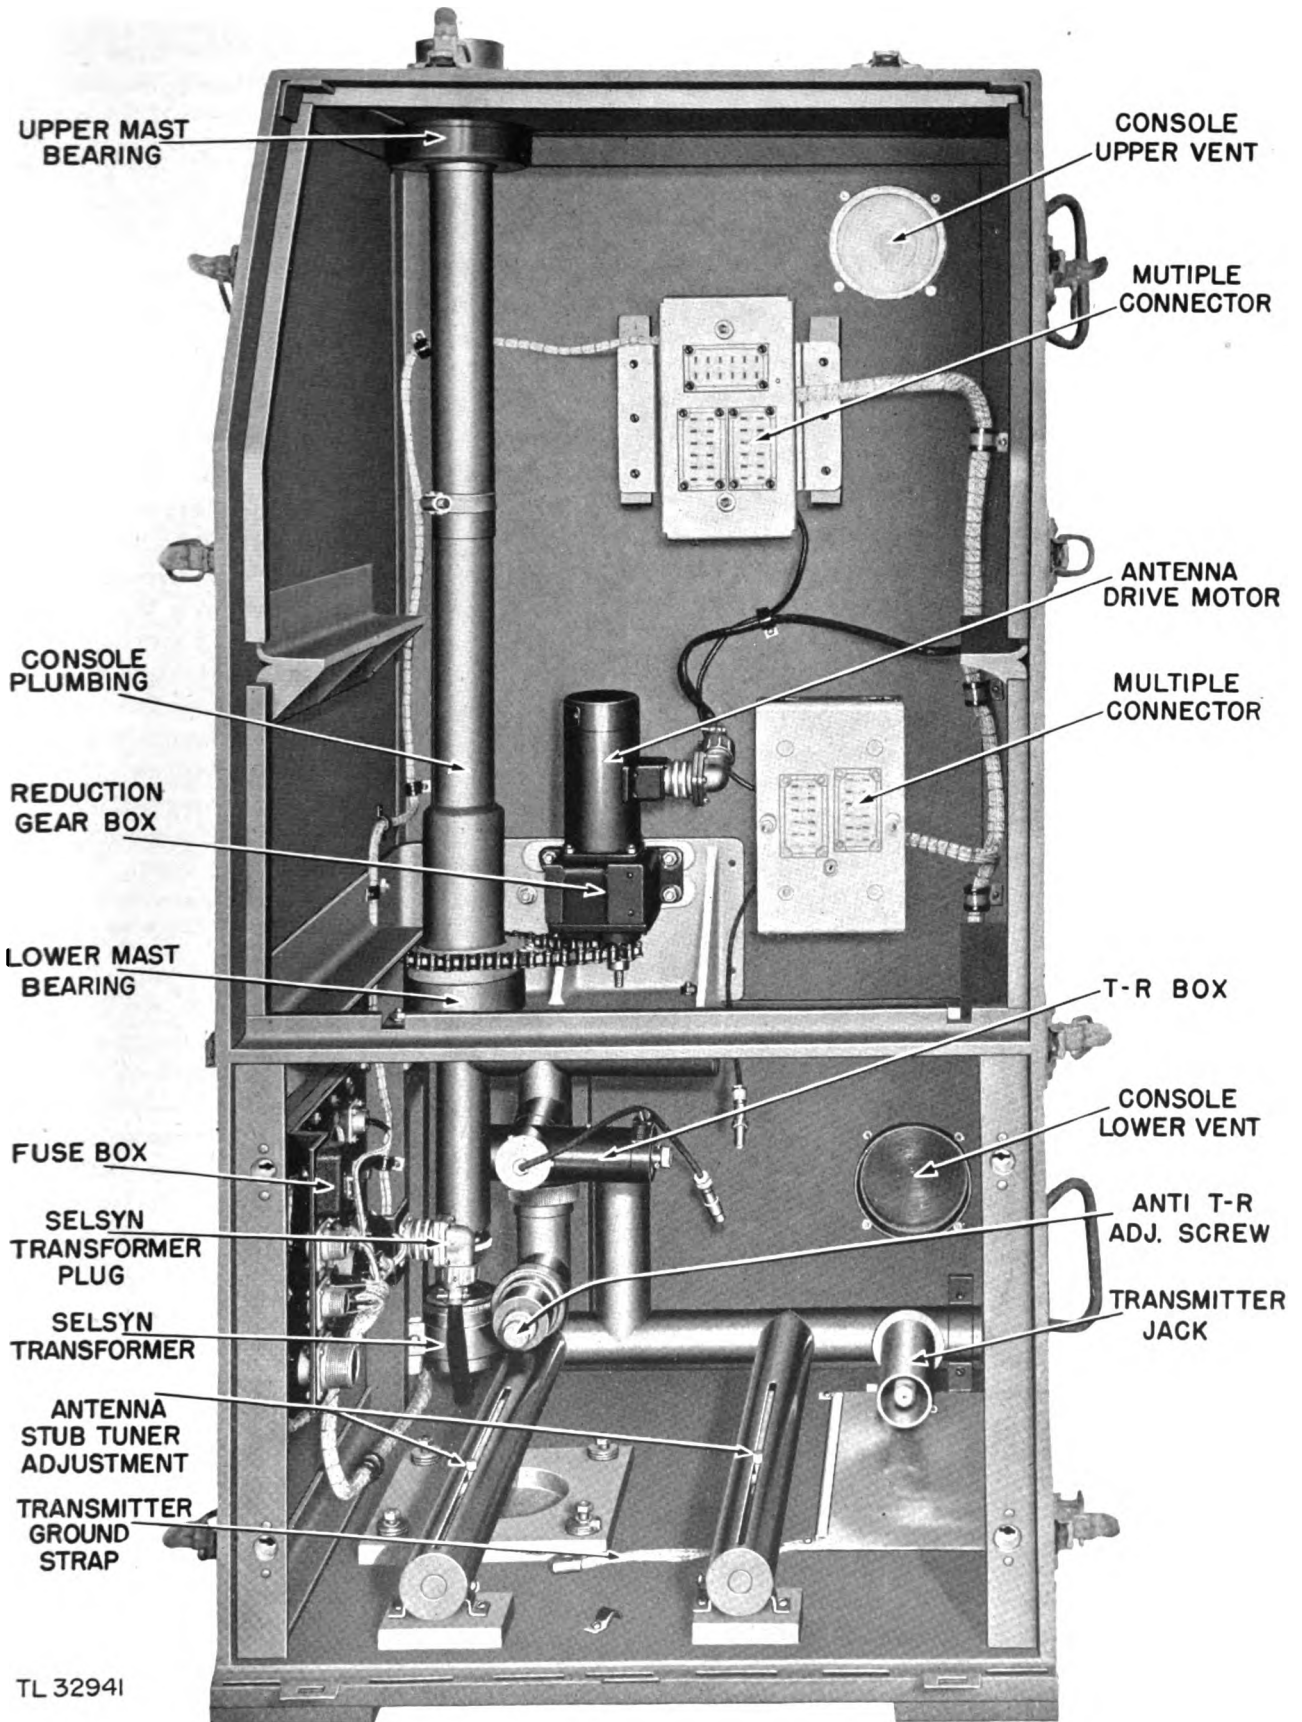

Figure 27. Console showing plumbing.
c. Remove the two exhaust hole covers on the rear of the console. Never operate the set with these covers on (fig. 27).
f. *Step No. 6.* Remove the transmitter and console vent caps at the rear of the console (fig. 27).
2. Carefully reach between the pulse transformer and the transmitter unit. Revolve the knurled wheel mounted on the shaft directly above the selsyn transformer in the lower left hand corner until the sweep trace is lined up, as shown in figure 27.
- (5) If the meter readings, transmitter noise, and scope presentations are not correct, refer to the complete tuning procedure which follows in paragraph 32. For occasional routine tuning up during the normal operation of the set, see the simplified tuning procedure in paragraph 34.
f. Step No. 6. To adjust the anti T-R spark gap (fig. 27) turn the knurled screw clockwise until the contacts touch. Now turn the screw counter-clockwise for about $\frac{1}{8}$ of a turn. This gives a gap clearance of approximately $\frac{1}{16}$ inch.
- (3) While turning the PLATE No. 2 control, the milliammeter switch should be set to read crystal current (X-TAL), and as the tuning control is turned in a clockwise direction, the crystal current increases gradually to a peak and then falls off sharply. The proper point of operation is near this peak point, and the meter should read between 0.5 and 0.7 milliamperes.
- (4) Set the meter switch in the R-F AMPL. No. 1 position and adjust BIAS No. 1 control until the meter reads 0.6 ma. Now set the meter switch to R-F AMPL. No. 2 position and set BIAS No. 2 control until the meter again reads 0.6 ma. Check currents before making adjustments. These controls are factory set and should need very little adjusting.
- (5) Obtaining fixed echoes may be difficult if the equipment is located in extremely flat country where no fixed targets are available and where planes are scarce. It is very difficult to tune the set on a plane because of the fading character of the signal. However, if no fixed targets can be seen, a plane must be employed. If only a nearby fixed target is obtained, reduce the receiver gain until the signal is just above the base line on the "A"-scope.
- (6) Readjust the T-R slug in the T-R system (fig. 27) for maximum size of the signal on the "A"-scope.
- (7) Readjust the local oscillator for maximum size of signal.
c. *Step No. 3.* While the cover is removed it is well to peak the T-R box of the duplexing assembly (fig. 27) on an echo by adjusting the resonant cavity. The mechanically adjusted gap (anti T-R spark gap) should be set to a gap-clearance of about